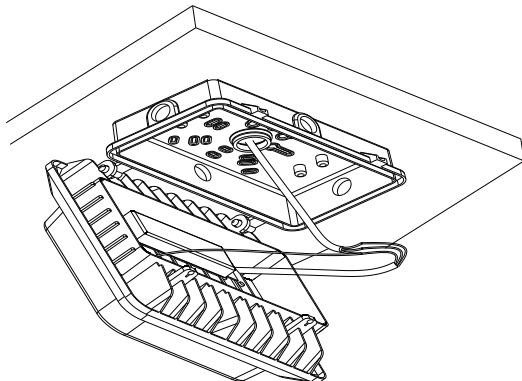

Figure 7
6. Make wire connection with supplied wire nuts per "Electrical Connections". See Figure 7.